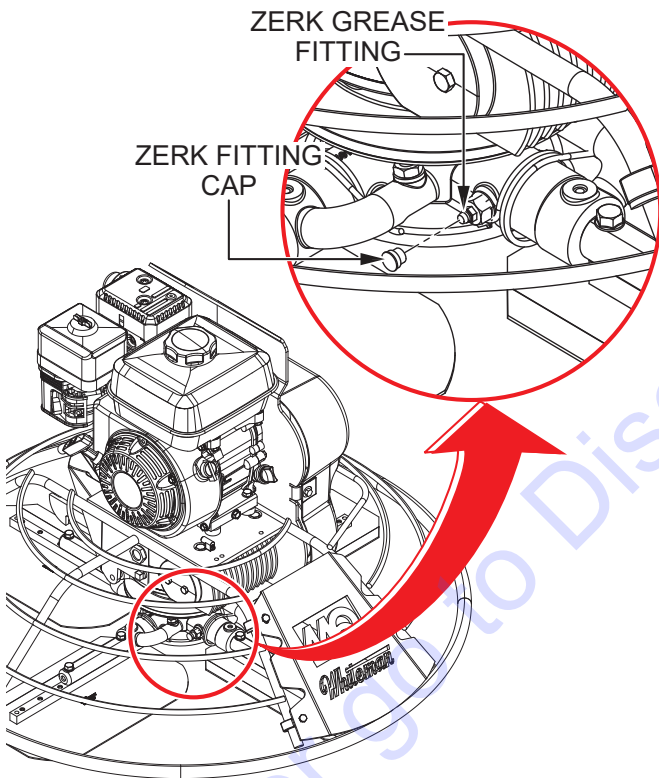

Figure 55. Spider Lubrication
1. Locate one of the Zerk grease fittings on the spider assembly (Figure 55). Remove the Zerk fitting cap and set it aside.